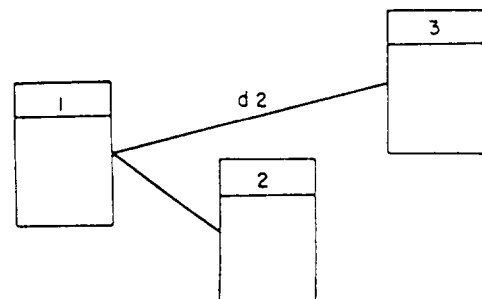

Figure 9-10.—Representation of delay.
**REPRESENTING A DELAY.**— In certain cases, there may be a delay between the start of one activity and the start of another. In this case, the delay may be indicated on the connector itself, preceded by the letter *d* as in figure 9-10. Here, Activity 2 may start as soon as Activity 1 is complete, but Activity 3 must wait 2 days. The delay is stated in the basic time units of the project, so the word “days” can be omitted.